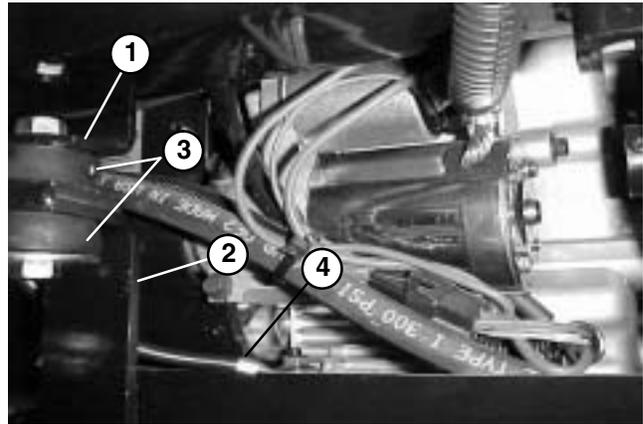

Figure 11
C. Remove flange head screw and nut under starter motor that secures engine and negative (-) cable to engine mounting plate (Fig. 11).
B. Secure two (2) red wires and positive (+) battery cable to starter solenoid stud with nut.
D. From below, install flange head screw and nut under starter motor that secures engine and negative (-) cable (Fig. 11).